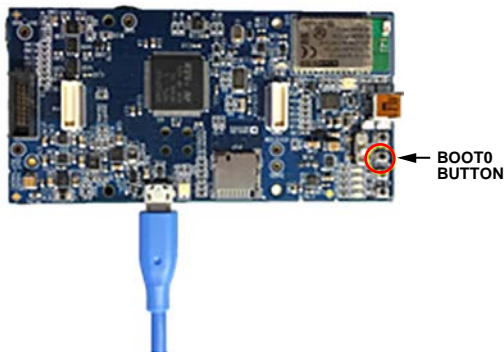

Figure 6. MicroUSB Connection and BOOT0 Button Used When Upgrading Firmware
2. Plug in a microUSB cable between the EVAL-ADPDUCZ and the PC with the power to the EVAL-ADPDUCZ turned off (see Figure 6).
3. Press and hold the **BOOT0** button, and switch the power switch to the **ON** position (see Figure 6).